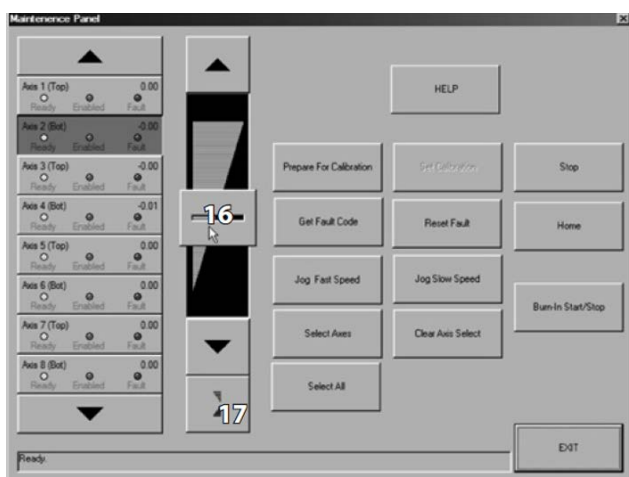

FIGURE 49
16. Jog (Latching mode)- Click the button then slide up or down to jog, axis will continue jogging even button is not pressed (Latch). Click button again to stop (Figure 49)
17. Change Jog mode – click to change jog function to “Momentary” mode (Figure 49)